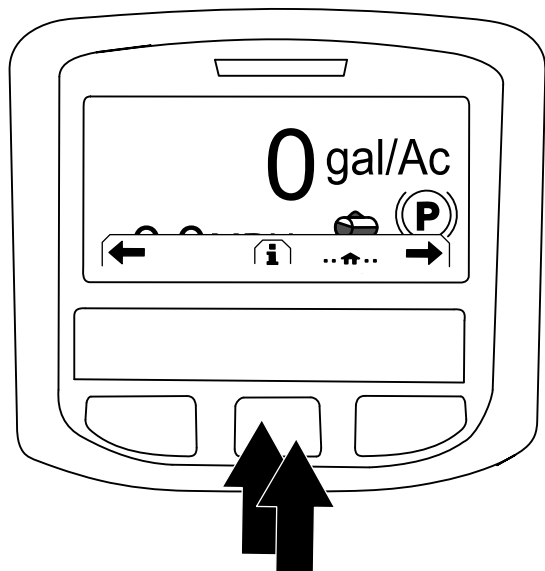

Figure 225
2. At the Home screen, press the center button on the InfoCenter to access the navigation screen (Figure 225).
3. Press the center button on the InfoCenter to access the Main Menu (Figure 225).